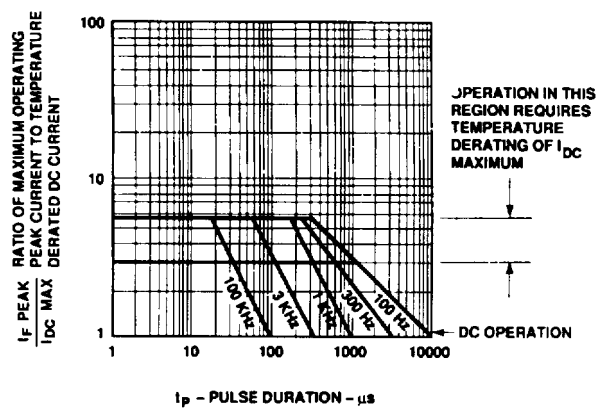

Figure 8. Maximum Tolerable Peak Current vs. Pulse Duration - Yellow Series.
- 7 See Figure 8 to establish pulsed conditions.